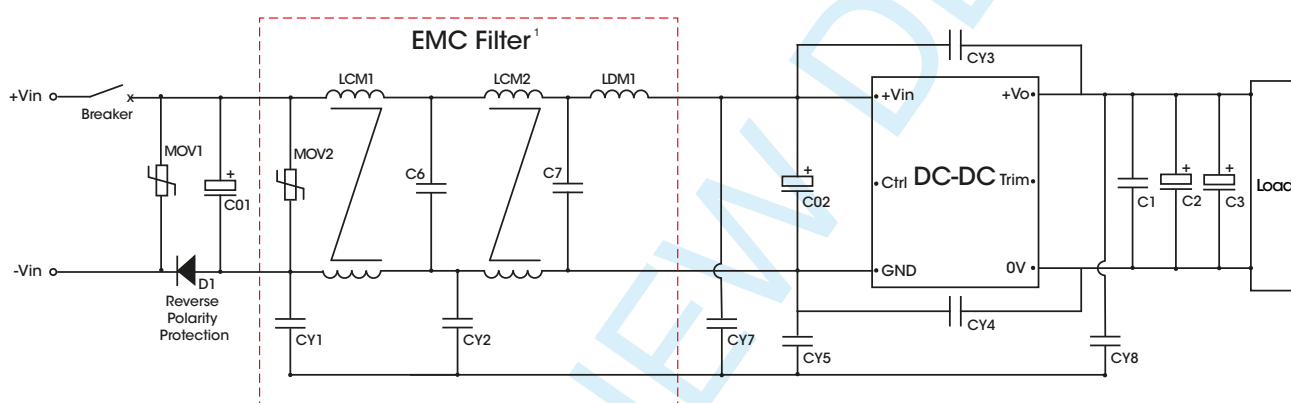

Figure 6. Recommended EMC Filtering
IEC 61000-4-8 60 Hz; 300 A/m (see Fig. 6 for recommended circuit)	perf. Criteria A
2. EMC Filter will be provided in a modular form, here is a recommended circuit and parameters, as shown in Fig. 6.